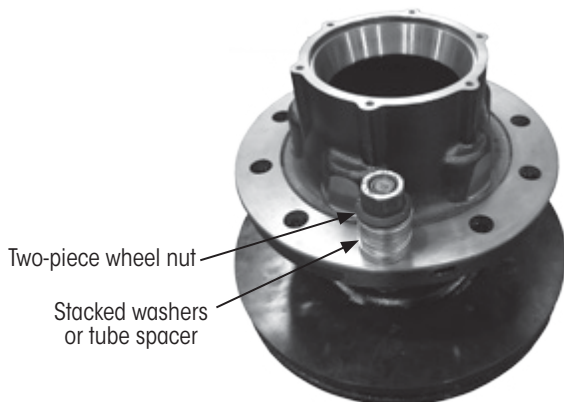

Figure 15: Stacked hardened washers and wheel nut
3. Install each stud into the assembly using a wheel nut and either a stack of hardened washers or a tube spacer (Figure 15).